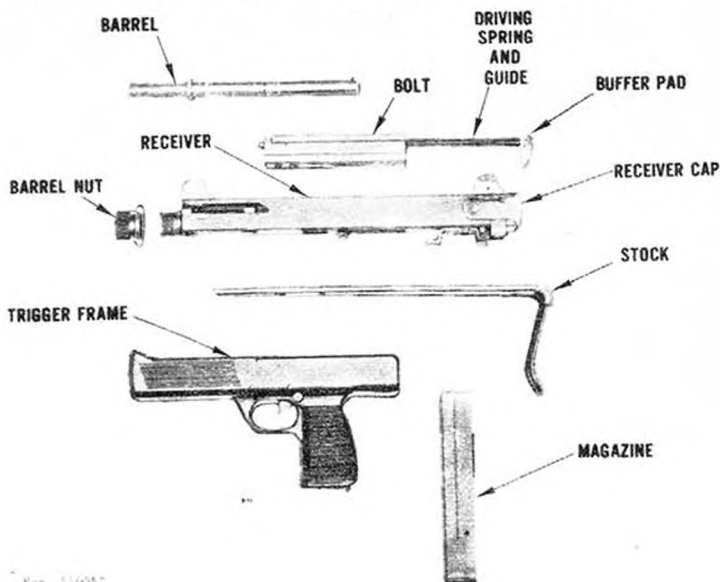

Figure 53. MPi Steyr 69 disassembled.
g. Insert the bolt unit into the receiver, driving spring to the left top. Point the muzzle down and press the trigger; the bolt will slide home. Press in the driving spring guide head (fig 53) and swing the receiver cap over the opening at the rear of the receiver. Insure that the driving spring guide head seats in the hole in the receiver cap.